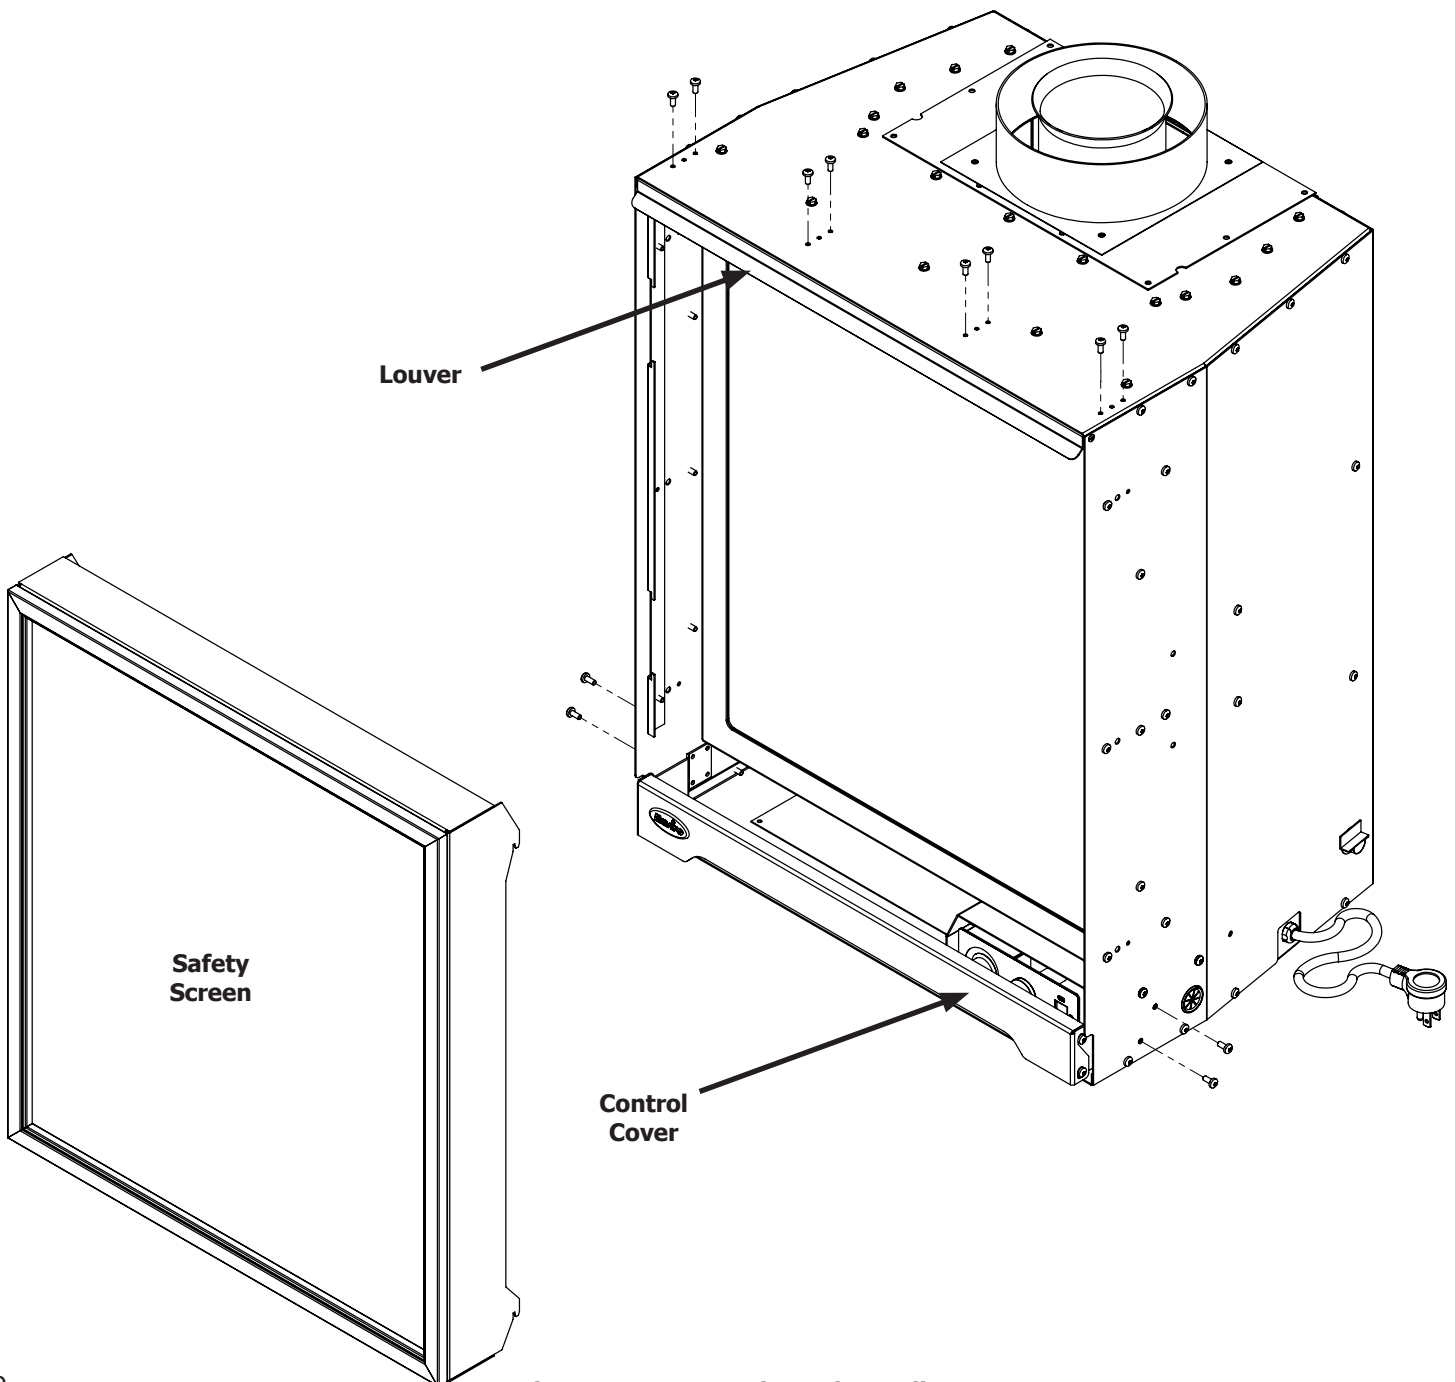

Figure 22. Surround Panel Install.
2. Use a T20 screwdriver to remove the two (2) screws on each side of the Control Cover as shown in Figure 22.
3. Use the same screw driver to remove the eight (8) T20 screws that hold the Louver to the top of the cabinet.